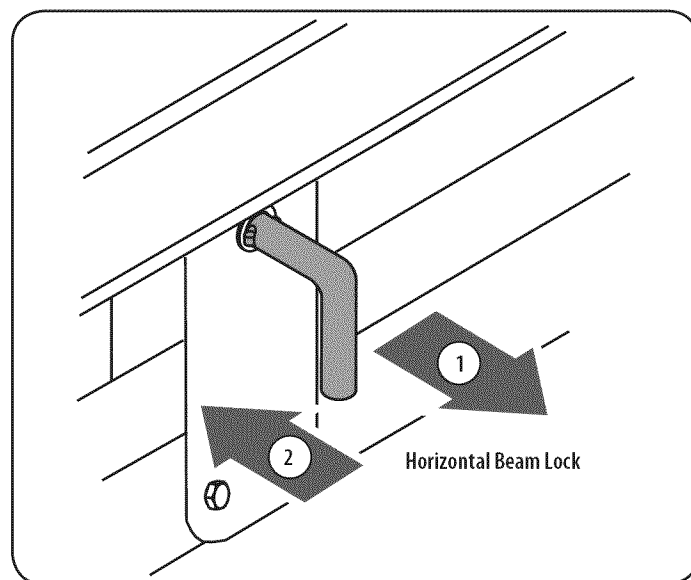

Figure 17
1. Pull the vertical beam lock out and rotate it down. See Figure 17. Pivot the beam to the horizontal position. The beam will lock automatically in the horizontal position.